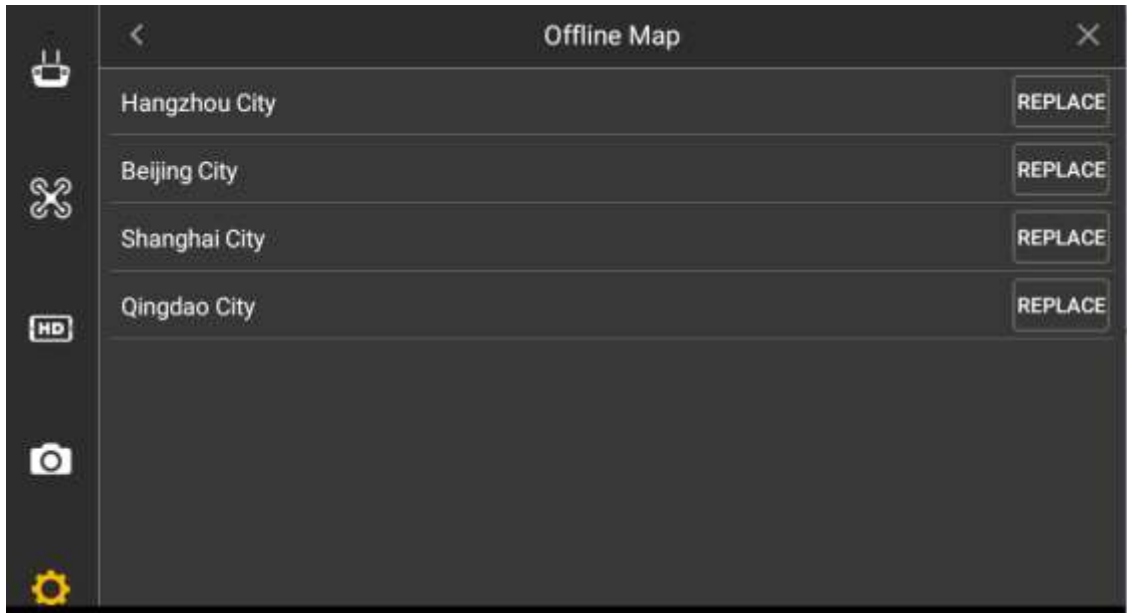

Figure 6-4
Step 2 Insert the SD card with offline map data package into the SD card slot of the remote control, so it will automatically update offline map interface and display the city list whose maps are stored in the SD card, as shown in Figure 6-4.